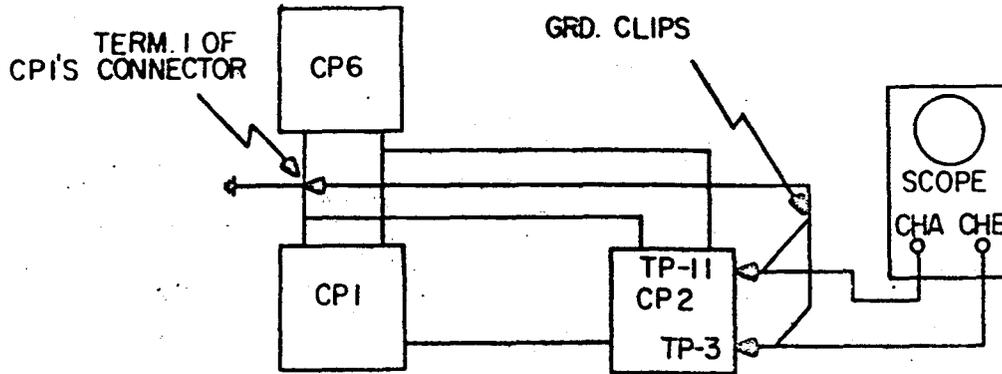

Fig. 5
- 4.22 Make the test connections shown in figure 5.